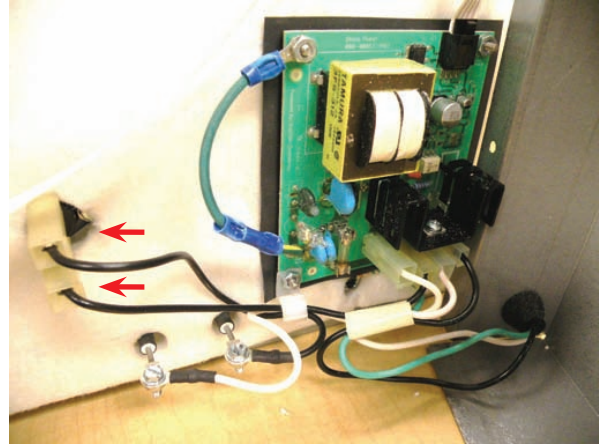

Fig 7
1. To remove **Thermostat**, unhook ribbon cable from key unit and unplug all wires from thermostat and heating element (**Fig 7**).